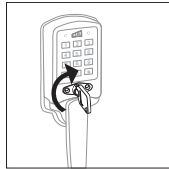

Figure 3
3. With the key inserted turn clockwise to the right (Figure 3).